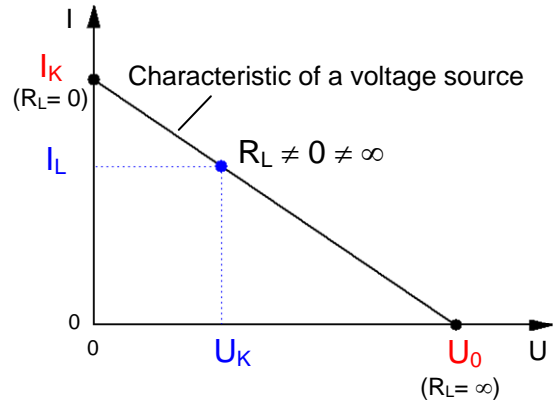

Fig. 5.1.2: Characteristic of a voltage source
**In practice, short circuit** ( $U_K = 0$ ) and **off-load** ( $I_L = 0$ ) operation have no significance. The two limiting conditions are used merely to define the end points of a characteristic for the voltage source (Fig. 5.1.2). All real applications with a loading resistance  $R_L$ , between '0' and 'infinity' also lie on the characteristic.